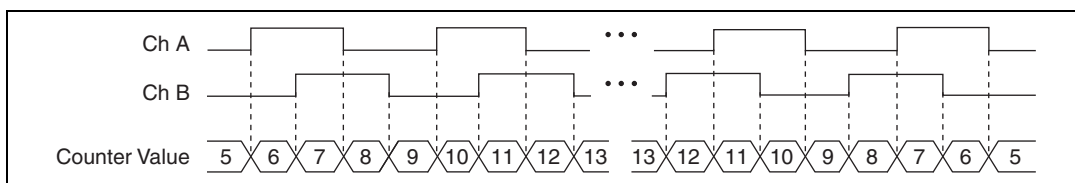

Figure 7-20. X4 Encoding
- **X4 Encoding**—Similarly, the counter increments or decrements on each edge of channels A and B for X4 encoding. Whether the counter increments or decrements depends on which channel leads the other. Each cycle results in four increments or decrements, as shown in Figure 7-20.